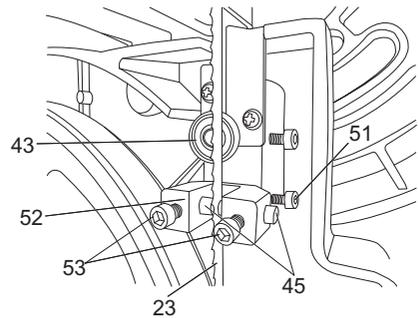

Fig. 29
- > Undo the hex screws (50) with 3mm hex key supplied.
- > Move the guide pin (44) towards the blade so that there is a gap of approx. 0.5 mm between the guide pins (44) and the blade (23). The blade must not jam.
- > Re-tighten the hex screws (50).
- > Check the setting of the guide pins (44) again and re-adjust if necessary.
4) Adjusting the lower guide pins (Fig. 29)
- > Undo the hex screws (51) with 3mm hex key supplied.
- > Move the mount (52) of the guide pins (45) so that there is a gap of approx. 1mm between the front edge of the guide pins (45) and the gullet of the blade in front.
- > Re-tighten the hex screw (51).